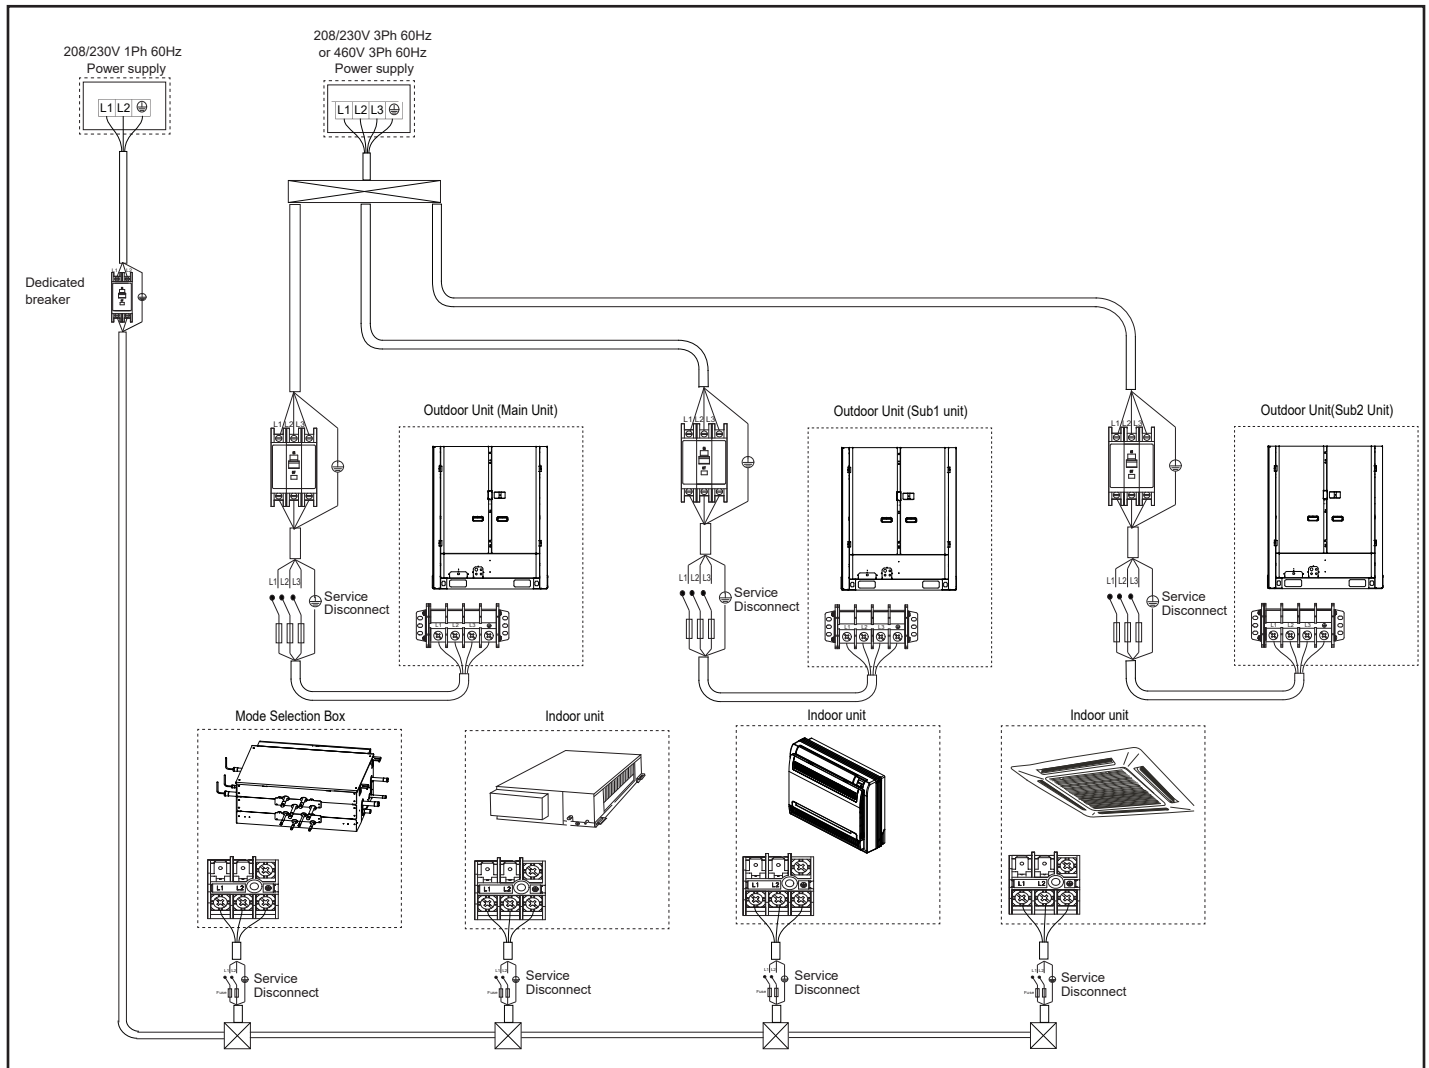

Figure 21. Typical Power Wiring Diagram (VRF Heat Recovery System Shown)
2. Locate the terminal strip in the control box. Connect the power wiring (sized per NEC/CEC and local codes) and communications cable (two-conductor, shielded cable) per Figures 21, 22 and 23. Refer to unit nameplate for rated voltage.